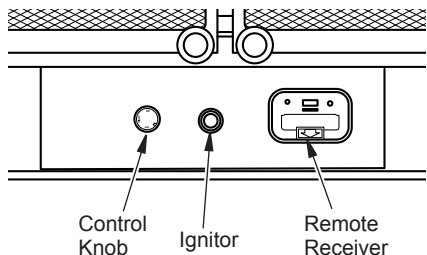

Figure 22 - Heater Control Locations
4. Push in control knob slightly and turn clockwise  to the OFF position (see Figure 22).
5. Wait five (5) minutes to clear out any gas. Then smell for gas around heater and near the floor. If you smell gas, STOP! Follow "B" in the safety information above. If you do not smell gas, go to the next step.
6. Push in control knob slightly and turn counterclockwise  to the PILOT position. Press in control knob for five (5) seconds. *Note: The first time that the heater is operated after connecting the gas supply, the control knob should be pressed for about thirty (30) seconds. This will allow air to bleed from the gas system. If pilot does not stay lit, refer to Troubleshooting, pages 26 through 29. Also contact a qualified service technician or gas supplier for repairs. Until repairs are made, light pilot with match.*